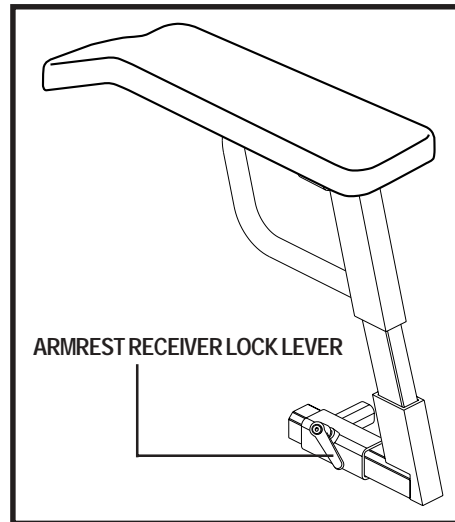

Figure 5. Armrest Position Adjustment
1. Loosen the armrest receiver lock lever. See figure 5.